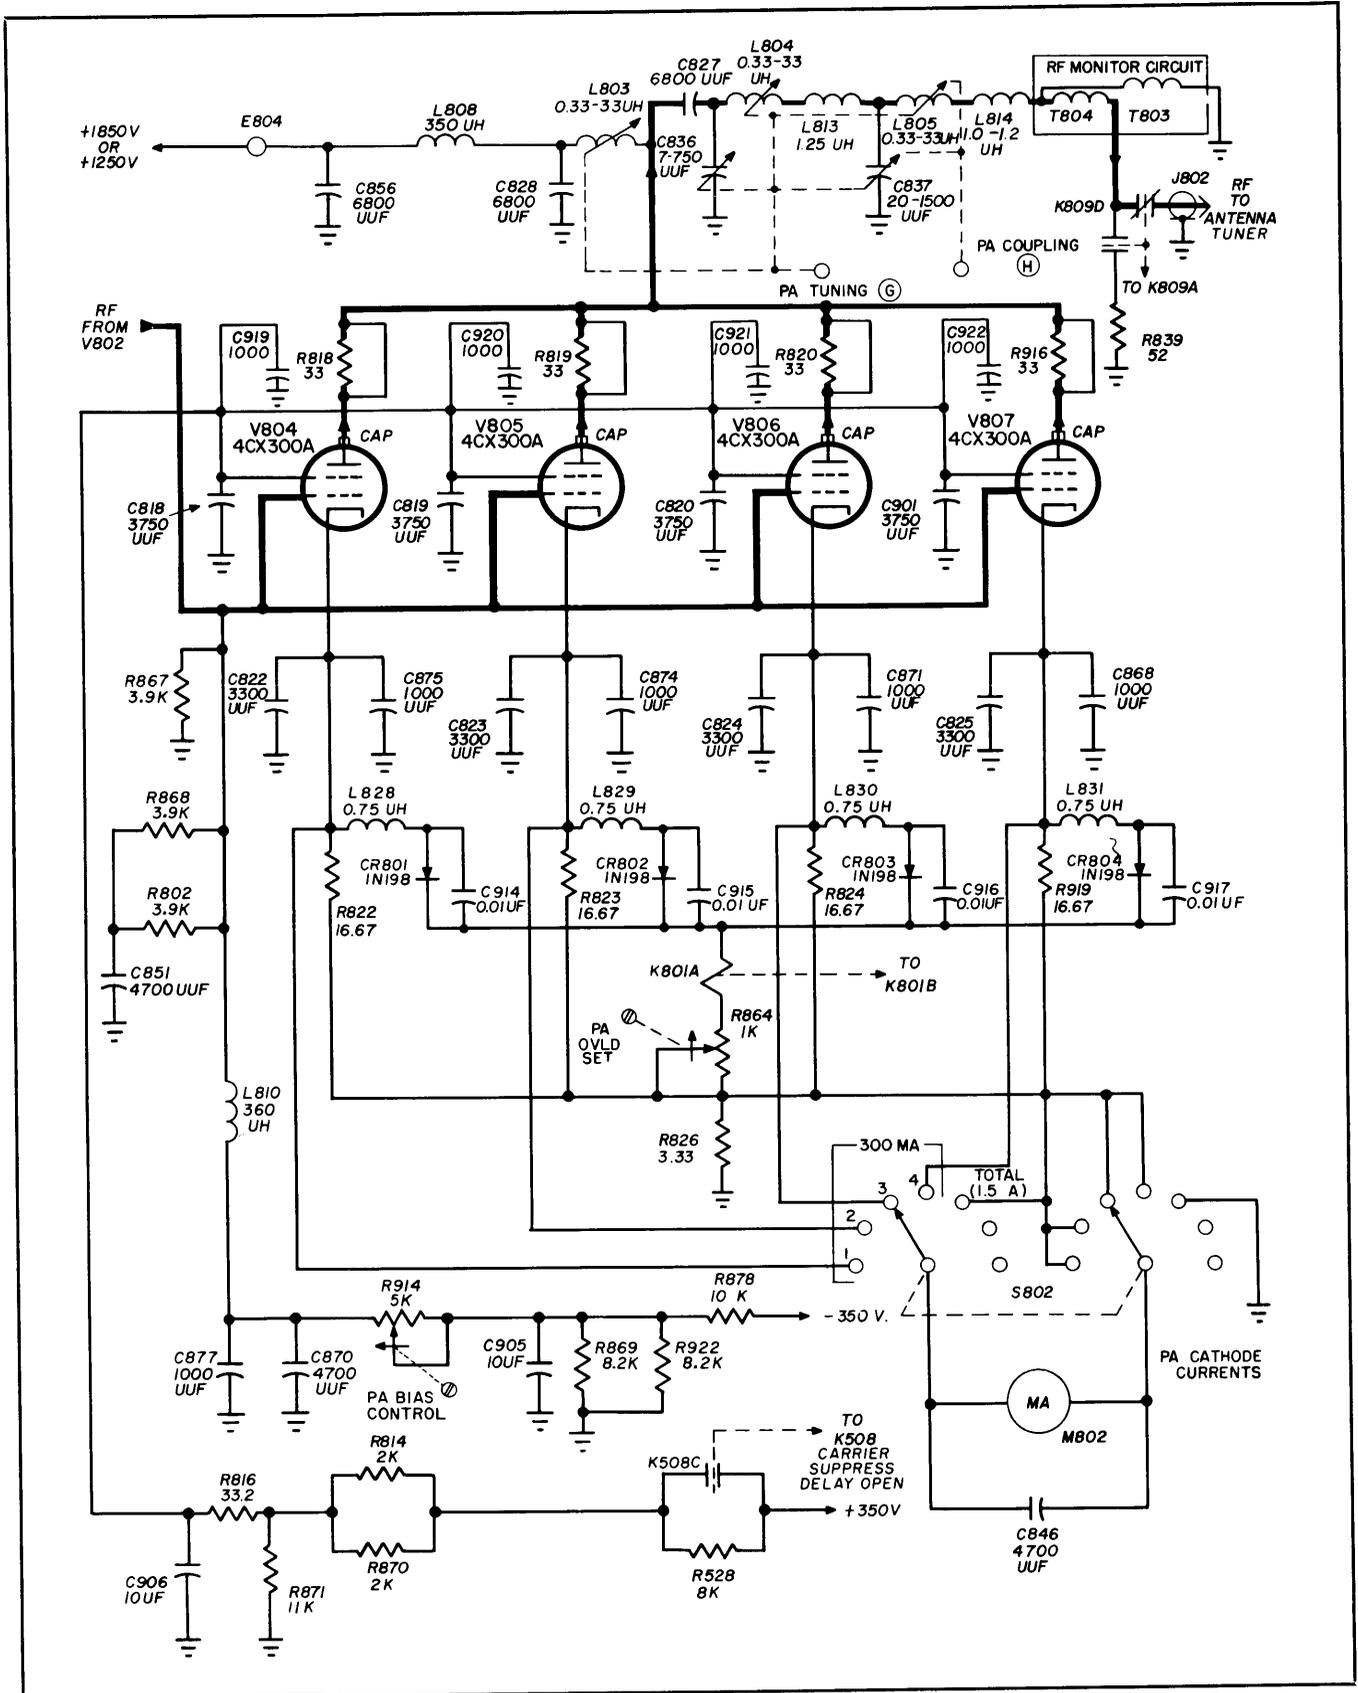

Figure 4-27. Power Amplifier Circuits, Simplified Schematic Diagram, Series 1 to 263
(4) POWER AMPLIFIER.
(a) Figure 4-27 is a simplified schematic diagram of the power amplifier circuits. As shown in figure 4-27, the r-f signal from the plate of second driver V802 is coupled to the control grids of power amplifier tubes V804, V805, V806 and V807. The four amplifier tubes are connected in parallel. The output of the power amplifiers is applied to a tuning network consisting of coils L803, L804, L813, L814, L805 and capacitors C836 and C837. Capacitor C827 is a blocking capacitor which allows the r-f voltage from the tubes to pass to the tuning and coupling network and prevents the high d-c plate voltage from entering the tuning network. P.A. TUNING (G) control varies the setting of capacitors C836 and C837, and that of coils L803, L804 and L805 to tune the output of the final stage to the selected frequency.